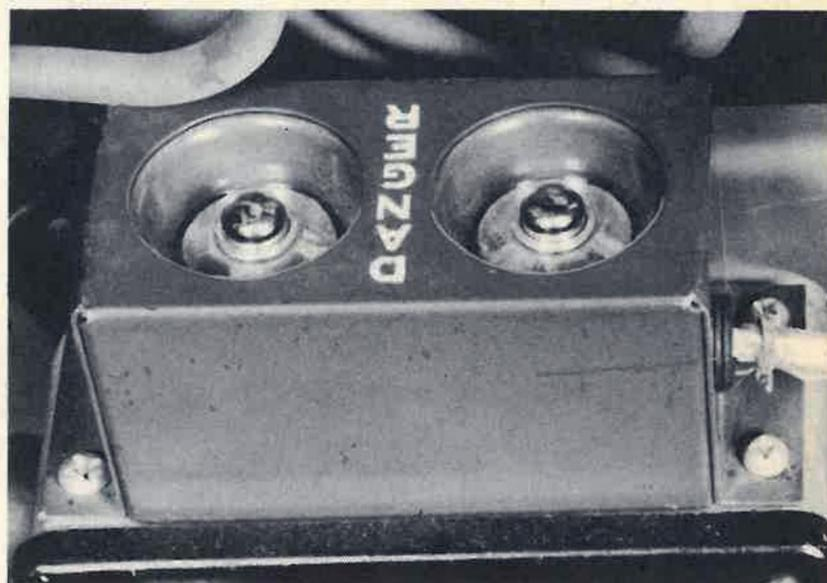

Figure 38 -- Destructor Switch
1. The destructor is designed to destroy radio receiver BC-966-() for reasons of secrecy, should this become necessary while operating the airplane. The detonator is set off when a voltage of the required value or higher is placed across its terminals. This will occur if the inertia switch is operated or if the two buttons marked DANGER on switch box BC-765 are depressed simultaneously. (Fig. 38.)